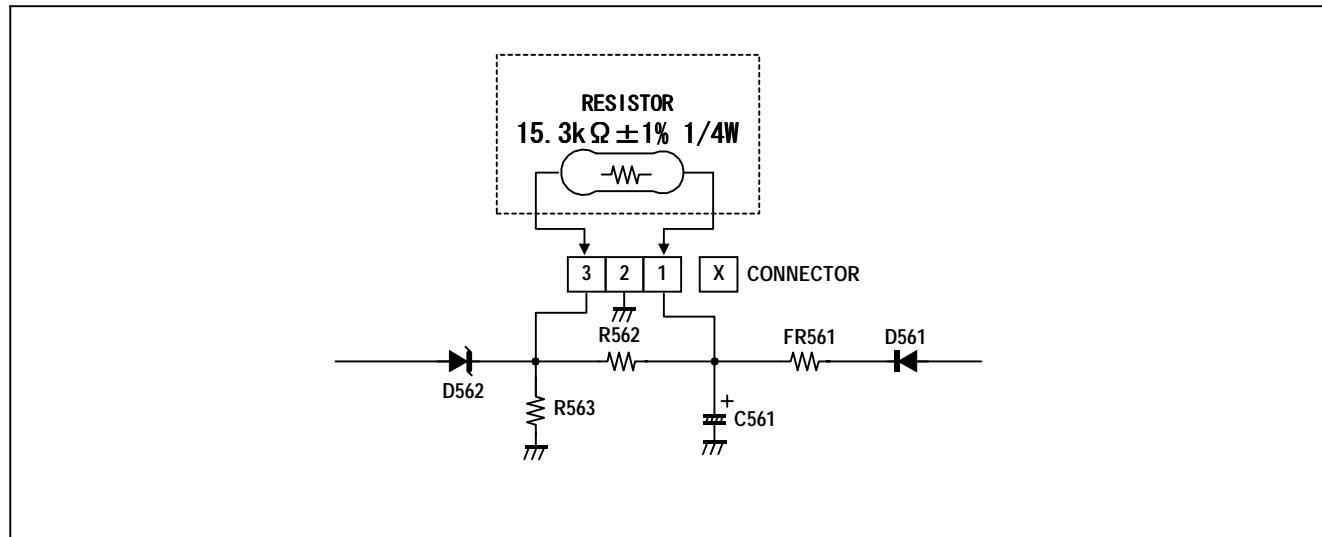

Fig. 2
- (1) Turn the POWER SW ON.
- (2) As shown in Fig.2, set the resistor (between **X** connector [1] & [3]).
- (3) Make sure that the screen picture disappears.
- (4) Temporarily unplug the power cord.
- (5) Remove the resistor (between **X** connector [1] & [3]).
- (6) Again plug the power cord, make sure that the normal picture is displayed on the screen.